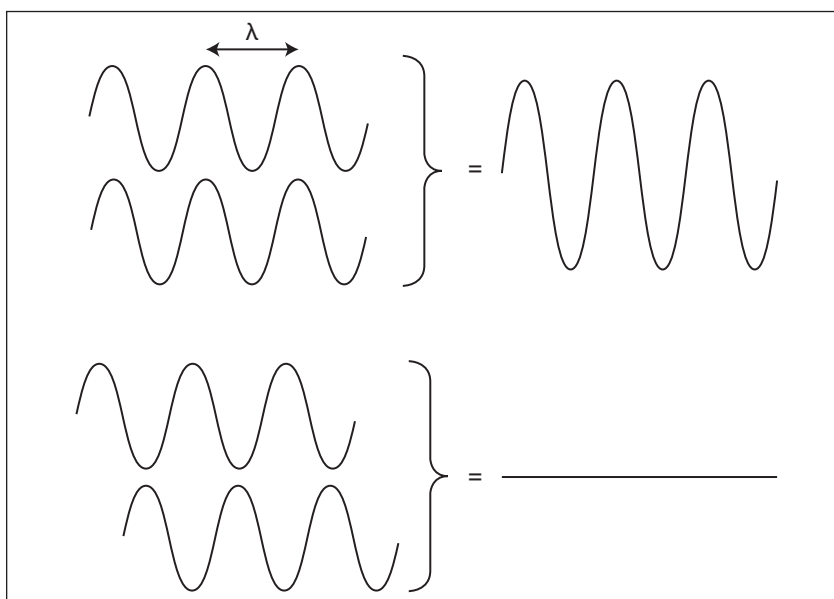

FIGURE 1 Two waves cancel out if they have the same power, but are half a wavelength apart
Now it's time to introduce a very basic but fundamental concept: Interference (**Figure 1**). Imagine you have two antennas radiating an RF signal at the same frequency and at the same power (P). If they are at the same distance from the receiver, then the waves will be in phase and will add. The result will be an electromagnetic wave twice as powerful ($2 \times P$). However, if the two signal sources are not at the same distance, then the waves will not be in phase, and the resulting signal may not be as strong. The worst case is when the signals are exactly out of phase (a 180-degree phase shift). They will cancel out,
and the result will be zero. If you look again at Figure 1, you will see that this situation occurs when the distance between the two sources is half the wavelength, or $12.5 \text{ cm}/2 = 6.25 \text{ cm}$ for a 2.4 GHz system, then $3\lambda/2$ and so on.